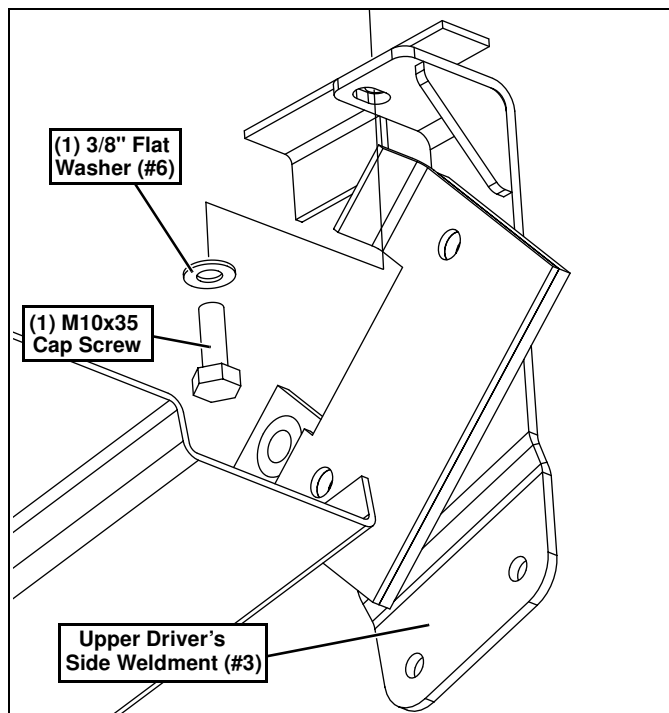

Figure 2
3. Align the holes in the side of the Upper Driver's Side Weldment (#3) with the holes in the brush guard. The top hole in the Upper Driver's Side Weldment (#3) should align with the upper front hole where the M10x35 Cap Screw was removed. (See Figure 2.)
4. Place (1) 3/8" Flat Washer (#6) over the slot in the Upper Driver's Side Weldment (#3). Insert the original M10x35 Cap Screw removed in step 2 thru the 3/8" Flat Washer (#6), Upper Driver's Side Weldment (#3) and into the frame. (See Figure 2.)